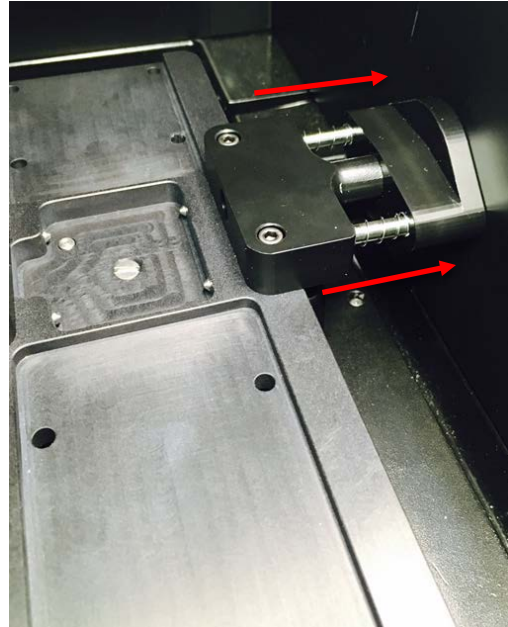

**FIGURE 2: Installation of hot-swappable baseplate (GEX P/N: P4330)**
2. Attach the GEX hot-swappable baseplate (GEX P/N: P4330). See Figure 2 below.